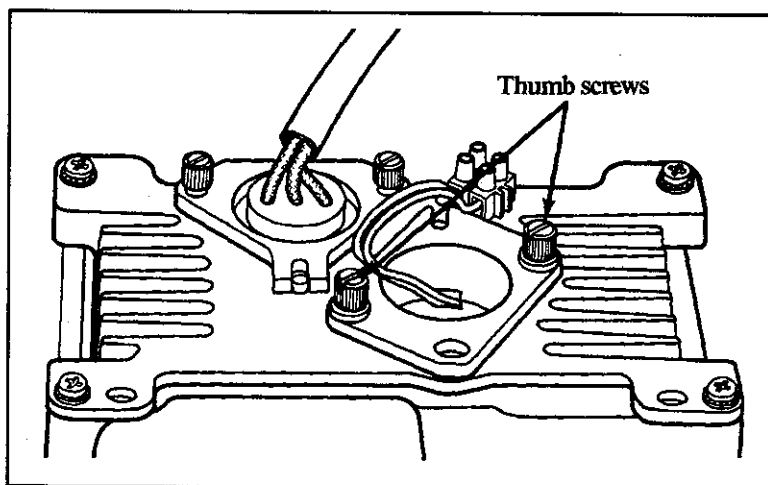

Figure 12-8.
3. Unscrew the two thumb screws which hold the visible source mounting bracket in position. See Figure 12-8.
6. Replace the source mounting bracket and tighten the two thumb screws. See Figure 12-8.
12. Tighten the two thumb screws that secure the visible source mounting bracket. See Figure 12-8.